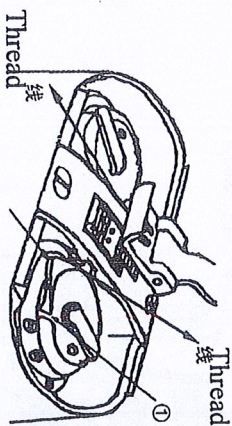
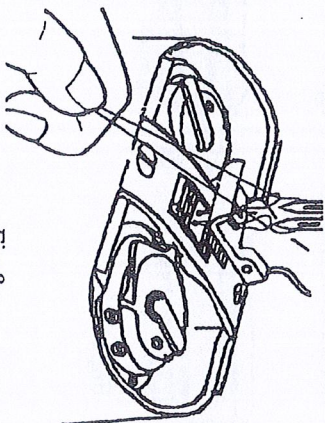

Fig. 7
Fig.8
12、 How to lead the lower thread (Fig.7、 Fig.8):
(1) As shown in fig.7, from the slit (1) pass the thread underneath the hook body, and pull it to the right diagonally, and thread will pass through the tension spring (single needle). From the slit (1) pass the thread underneath the hook body, and pull the left thread to the left and the right thread to the right diagonally, and thread will pass through the tension spring (double needle).
(2) As shown in fig.8, holding the end of upper thread by left hand, turn the balance wheel slowly one around by right hand, the upper thread will hook out pulling the lower thread simultaneously through the hole of needle plate, and leave the lower thread to the other side of the needle plate. Close the side plate.